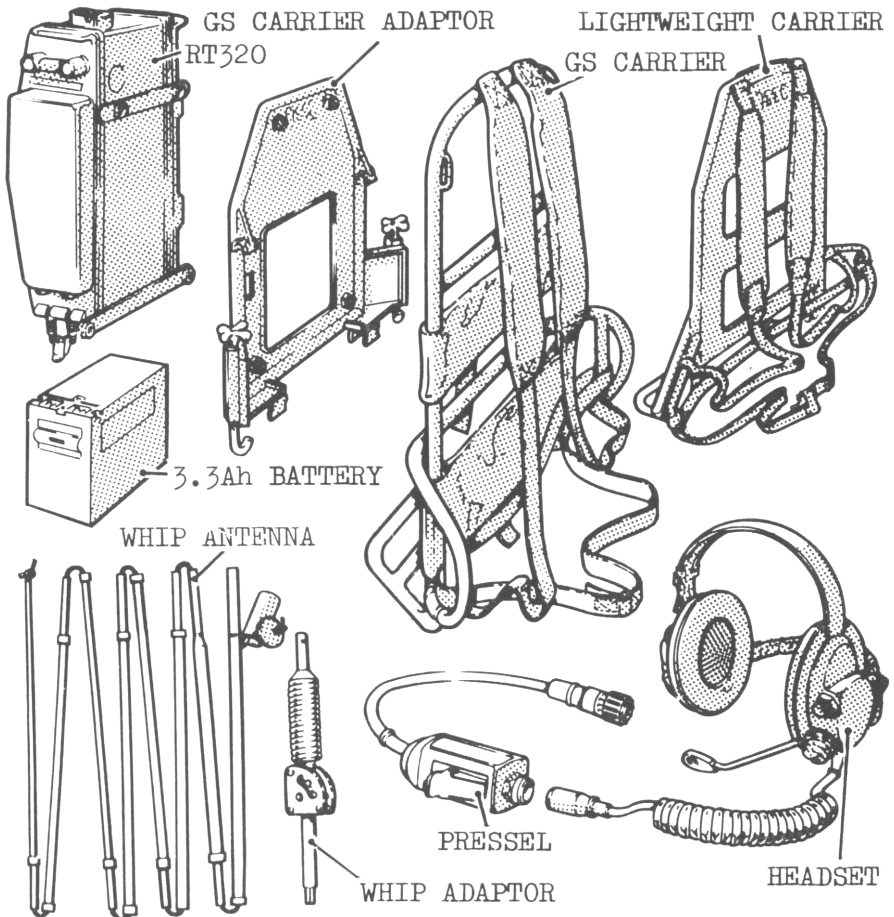

Fig.2a Basic Station and Ancillary Equipment
2.1 The items comprising the basic station and its auxiliary equipment are illustrated in Fig.2a,b,c, in which they are referred to by their common names.
2.5 The correct carrying position for the manpack is as shown in Fig.1 (page xii). The lightweight carrier illustrated in Fig.2a (page 13) can be used as an alternative.